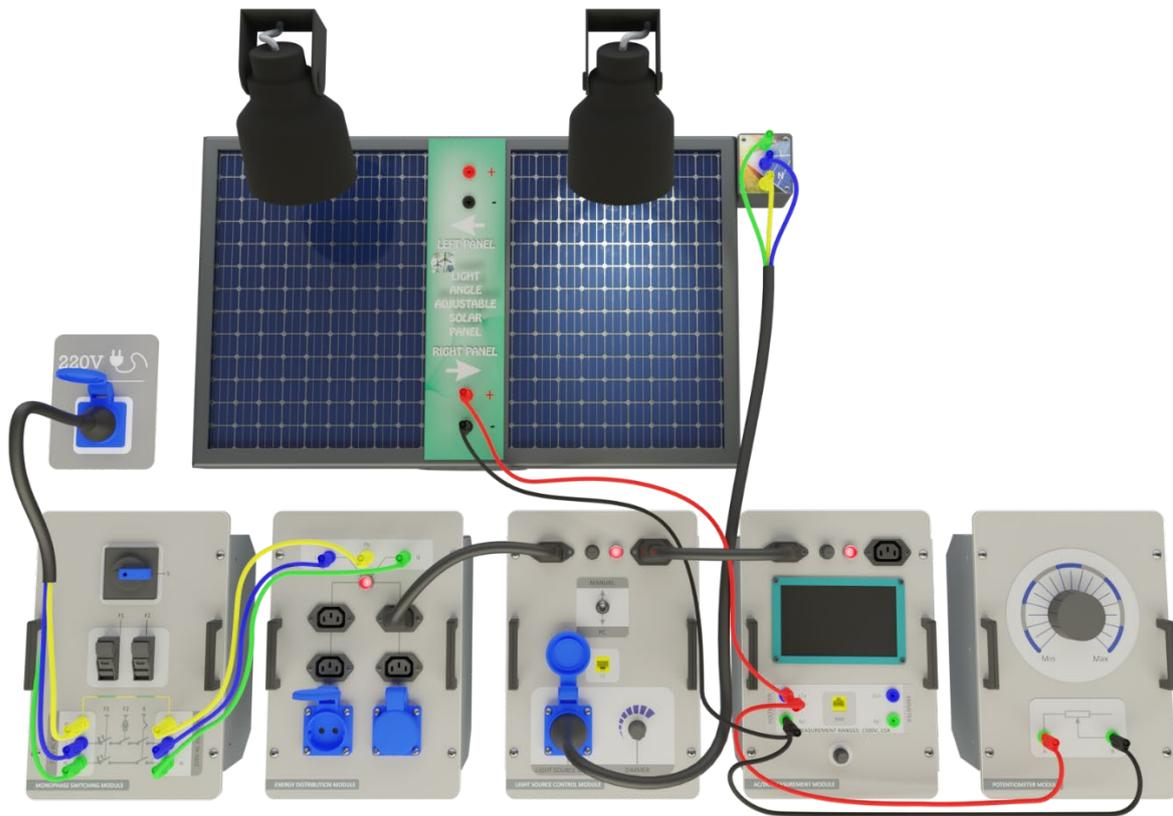

Figure-36. Installation Image of Examination of the Fotovoltaic Panel's Loaded Outputs Depending on the Sun's In-Day Movement
1. Set up the connection as specified in Figure-36. Ensure a constant level of light in the laboratory by creating an average scenario. Any alterations to the positions of the lamps or curtains will have an impact on the experimental outcomes.